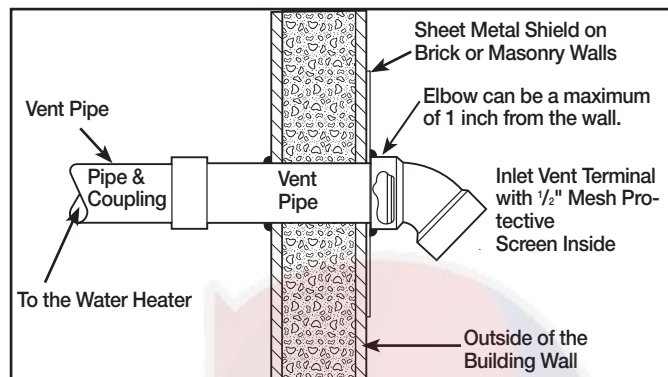

Figure 7 – Typical Horizontal Vent Installation
3. **DO NOT** terminate vent pipe directly on brick or masonry surfaces. Use a rust-resistant sheet metal backing plate behind vent. (See Figure 7.)
**HORIZONTAL VENT INSTALLATION** – Once the vent terminal location has been determined, make a hole through the exterior wall to accommodate the vent pipe. The vent pipe must exit the exterior wall horizontally only (See Figure 7).
Insert a small length of vent pipe through the wall, and connect the coupling as shown in Figure 7. Connect the vent terminal as shown to the vent pipe on the exterior of the building. Seal any opening around the vent pipe or fittings with mortar or silicone caulk as shown in Figure 7.